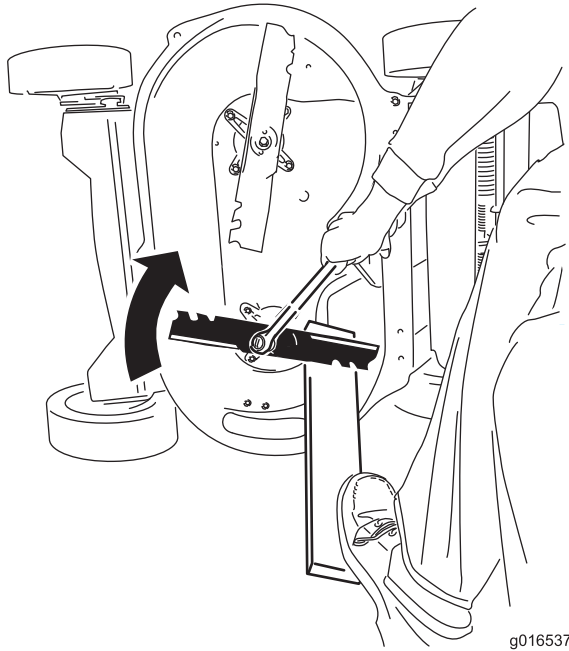

Figure 40
- Steady each blade with a board and turn the blade bolt clockwise with a torque wrench as shown in Figure 40; torque each blade bolt to 82 N-m (60 ft-lb).